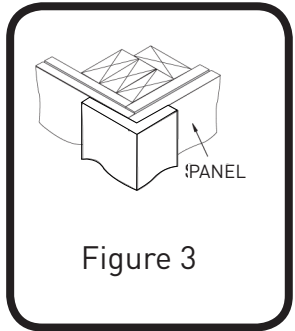

Figure 3
- At corners, use KWP Trim (see Fig. 3).